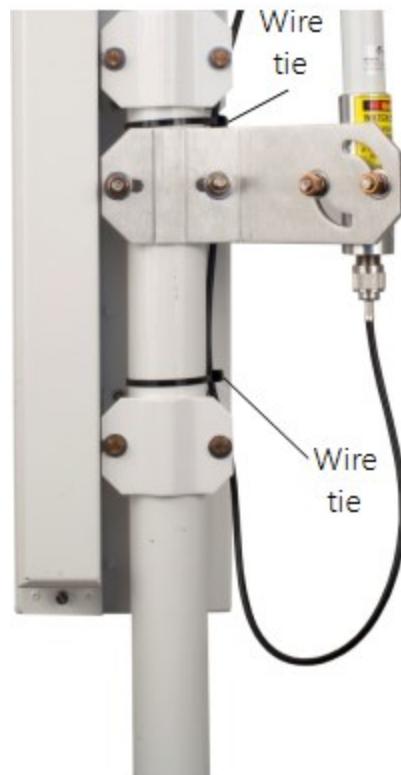

FIGURE 6-35. Wire tie locations for omnidirectional antenna installation
9. Use the following procedure to install the Yagi antenna for the radio. Installation of the omnidirectional antenna is similar (FIGURE 6-35 (p. 51)).